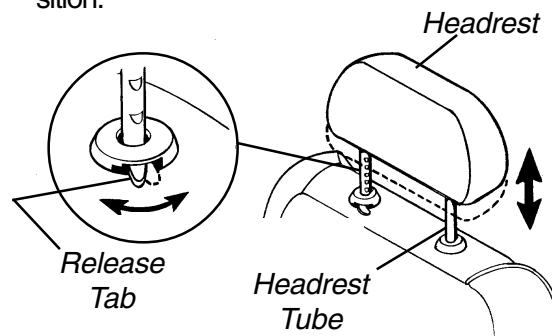

FIGURE 3 - ADJUSTING THE HEADREST
**ADJUSTING THE HEADREST (FIGURE 3)**